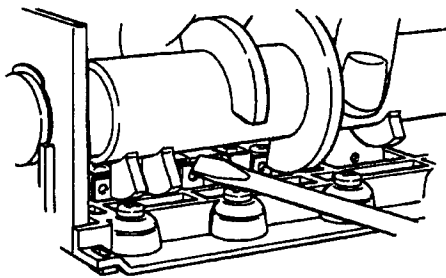

Figure 3
4. Relieve system pressure by opening the Fast Rinse Drain Valve (the fifth valve back from the control) with a screwdriver, Figure 3.